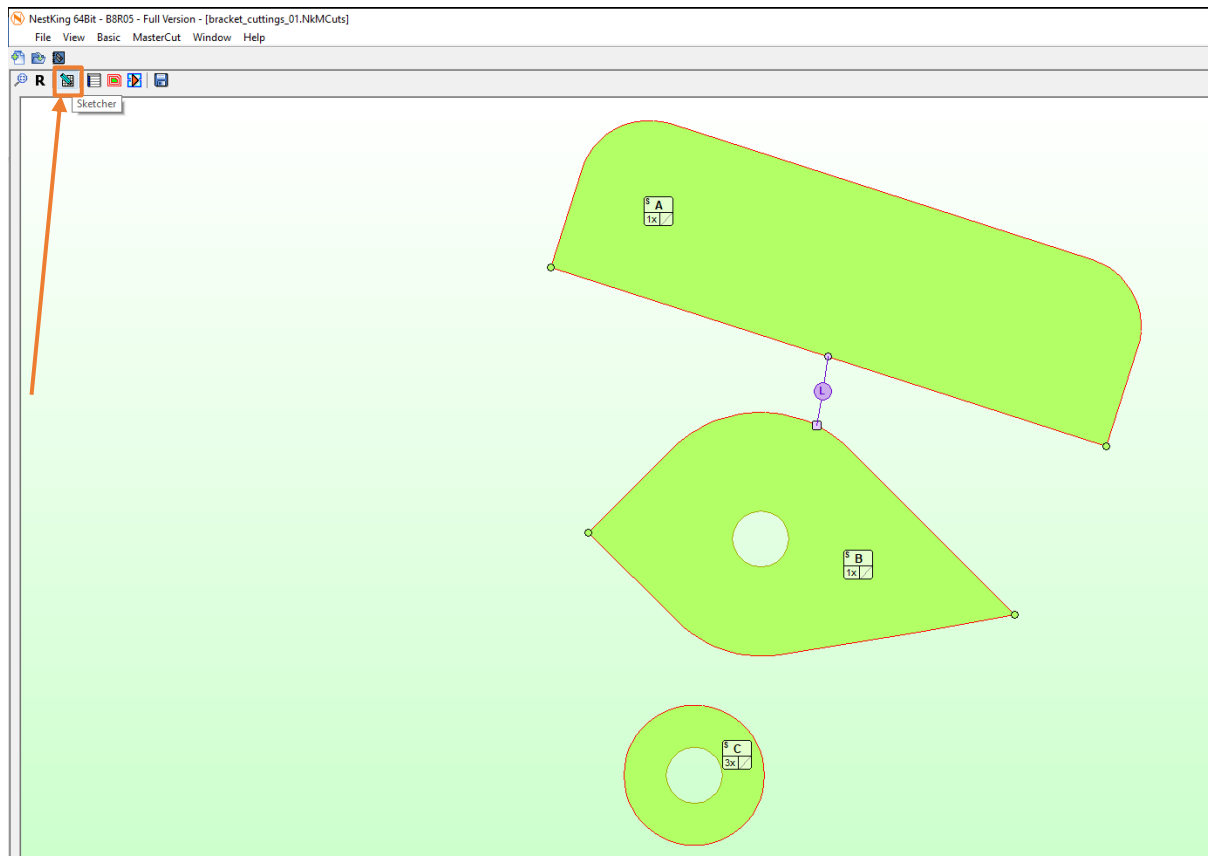

Figure 189
1. So back in the MasterCut workspace enter to the sketcher workspace by clicking the Sketcher button  (Figure 189) or using shortcut **S**.